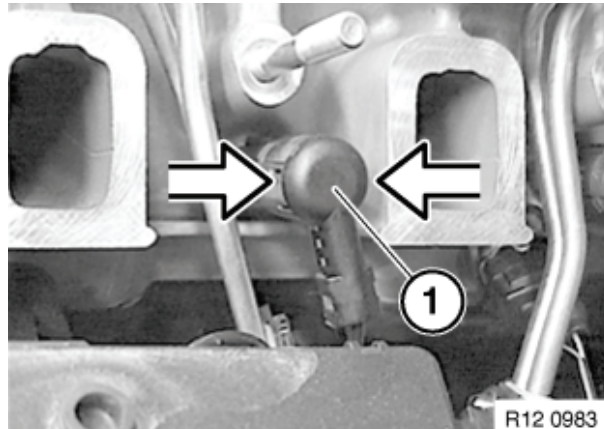

Figure 5-8
3. Release locks and remove connector **(Figure 5-8, (1))** from glow plug.